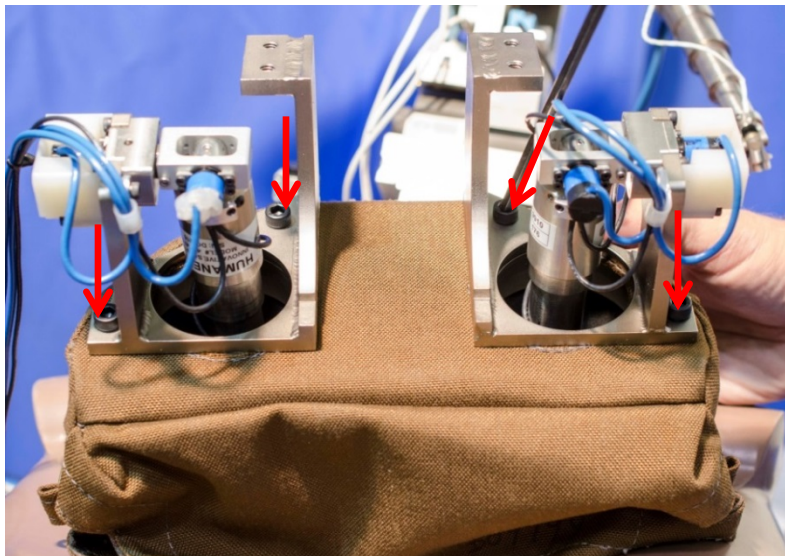

Figure 9-28. Loosely install left and right IR-TRACC attachment brackets to abdomen
- 9.2.3.2 Slightly *loosen* (but do not remove) the M6 x 1 x 20 SHCS bolts (two per side) which hold the Left and Right Attachment Brackets (472-4720-1 & 472-4720-2) to the abdomen bracket (Figure 9-28). This will make it easier to install the abdomen assembly to the pelvis mounting block. Take care to tighten these bolts at the end of the assembly.